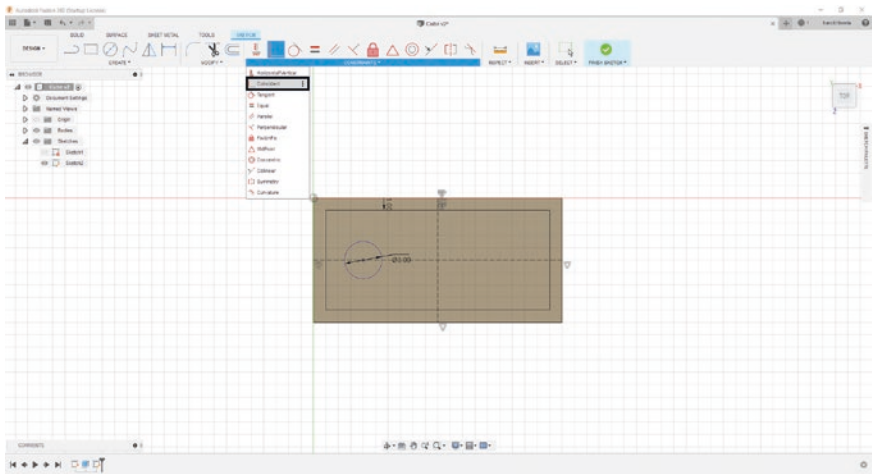

Figure 3-68. Constrain the circle to the horizontal center line
- 21. Now while pressing the “Ctrl” key, select the center of the circle and the horizontal construction line; then select the coincident constraint from the “CONSTRAINTS” menu. See Figure 3-68.